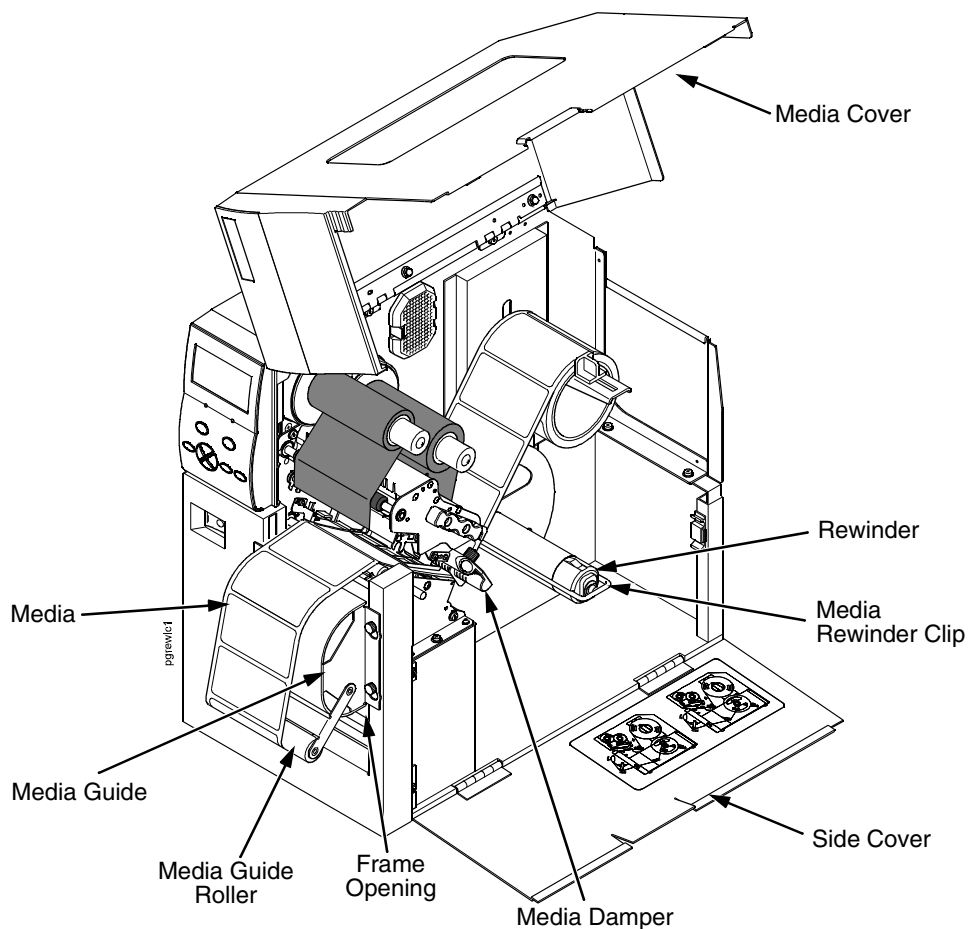
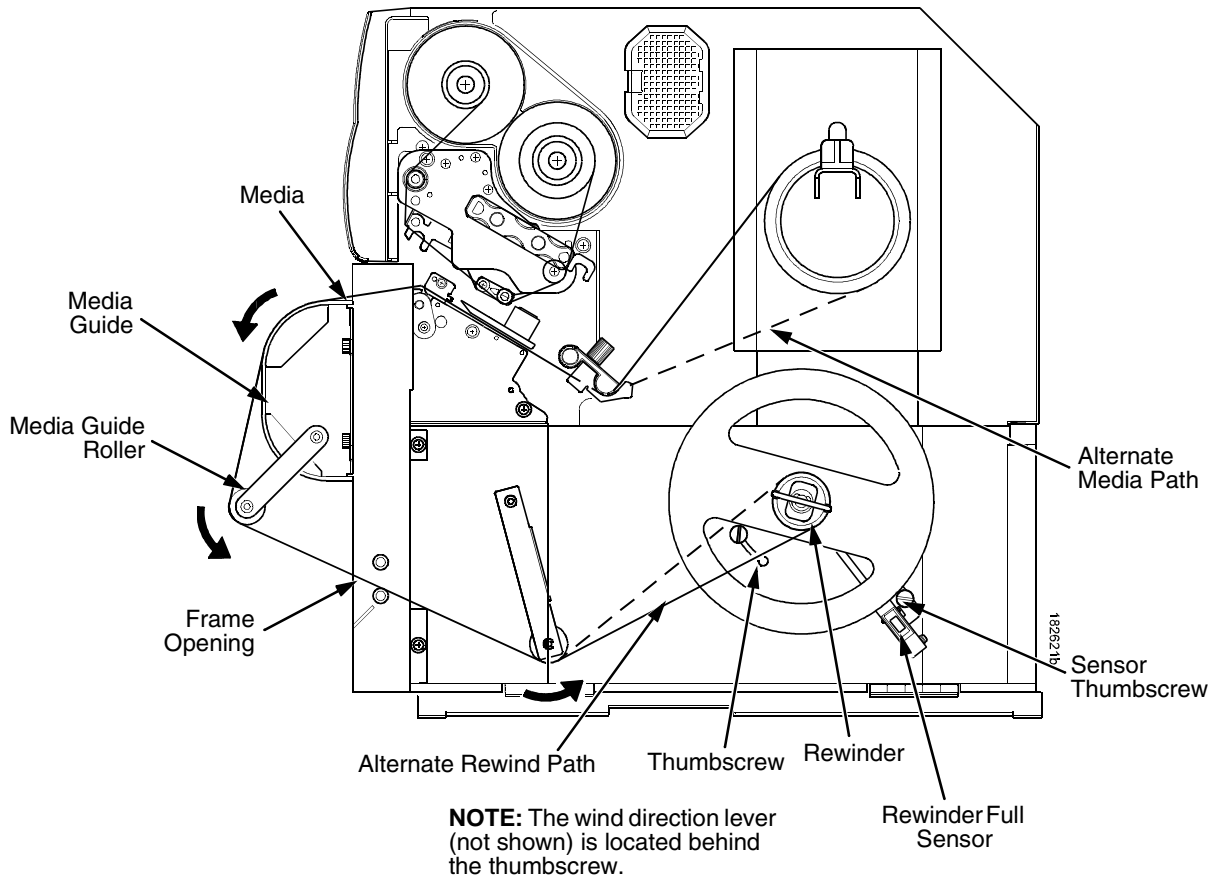

Figure 12. Loading the Media Rewinder
Figure 13. Media Rewind Path
2. Thread the media over the front of the media guide, around the media guide roller, and through the frame opening toward the rewriter. See Figure 12 and Figure 13.
3. Loosen the thumbscrew, pull it outward, position the wind direction lever in the desired location, and tighten the thumbscrew. See Figure 13.
2. Position the rewinder full sensor in the lower position and tighten the sensor thumbscrew. See Figure 13 on page 242.